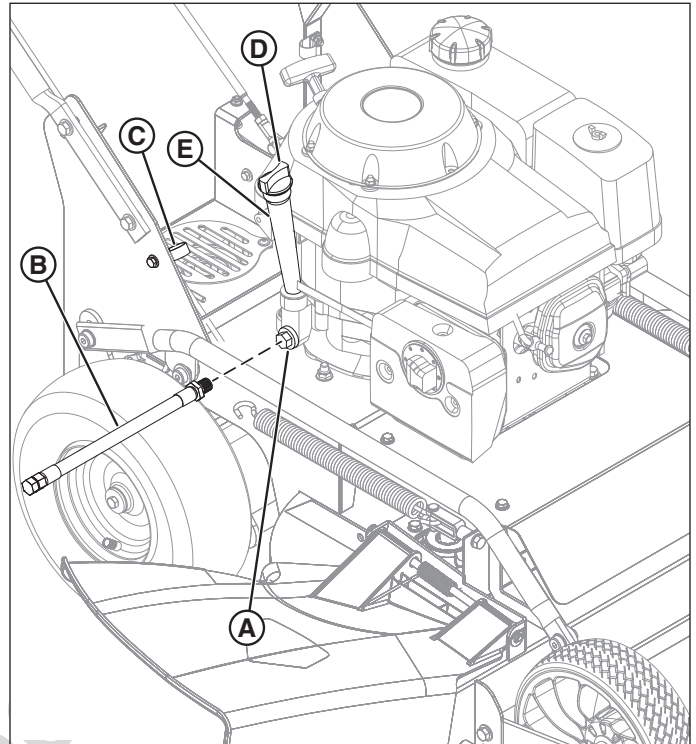

Figure 1. Installing the Engine Oil Dipstick
3. Place a small pan as close as possible to the oil drain cap (**A, Figure 1**). Place several cloths underneath the oil drain cap to catch the oil.